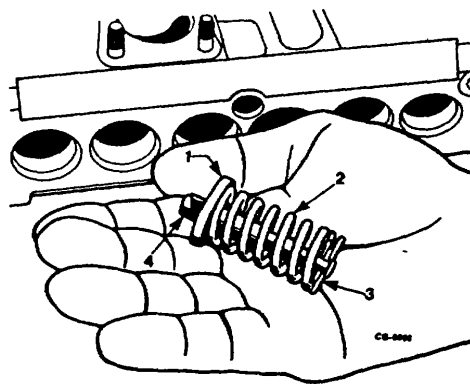

Figure 25. Removing Plungers
13. Remove keepers, plunger springs, upper spring seats and plungers (Figure 25). Keep parts in order, don't touch machined surfaces and keep surfaces wet with fuel oil while removed.